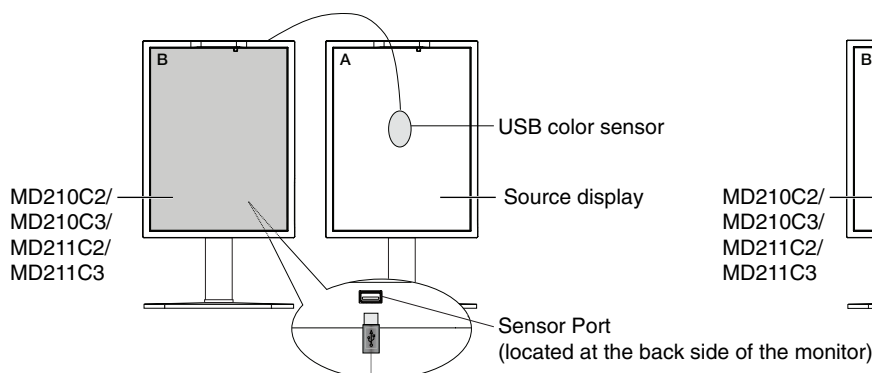

Figure C.1
1. To show the CALIBRATION menu, plug-in the USB color sensor to the sensor port (**Figure C.1**) or select the STAND ALONE CALIBRATION in the advanced menu (page 22).
4. The procedure will ask for the USB color sensor to be placed on the center of the display panel (**Figure C.4**). Tilt the display panel approximately 5° backward and place the USB color sensor in the center of the display panel (**Figure C.1**).